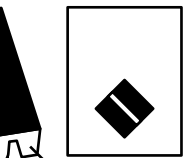

Fig. 14
- a. To adjust for longer overcut, visually note overcut adjustment post (by looking straight down at post) and turn post from under side with screwdriver toward position shown in Fig. 14.